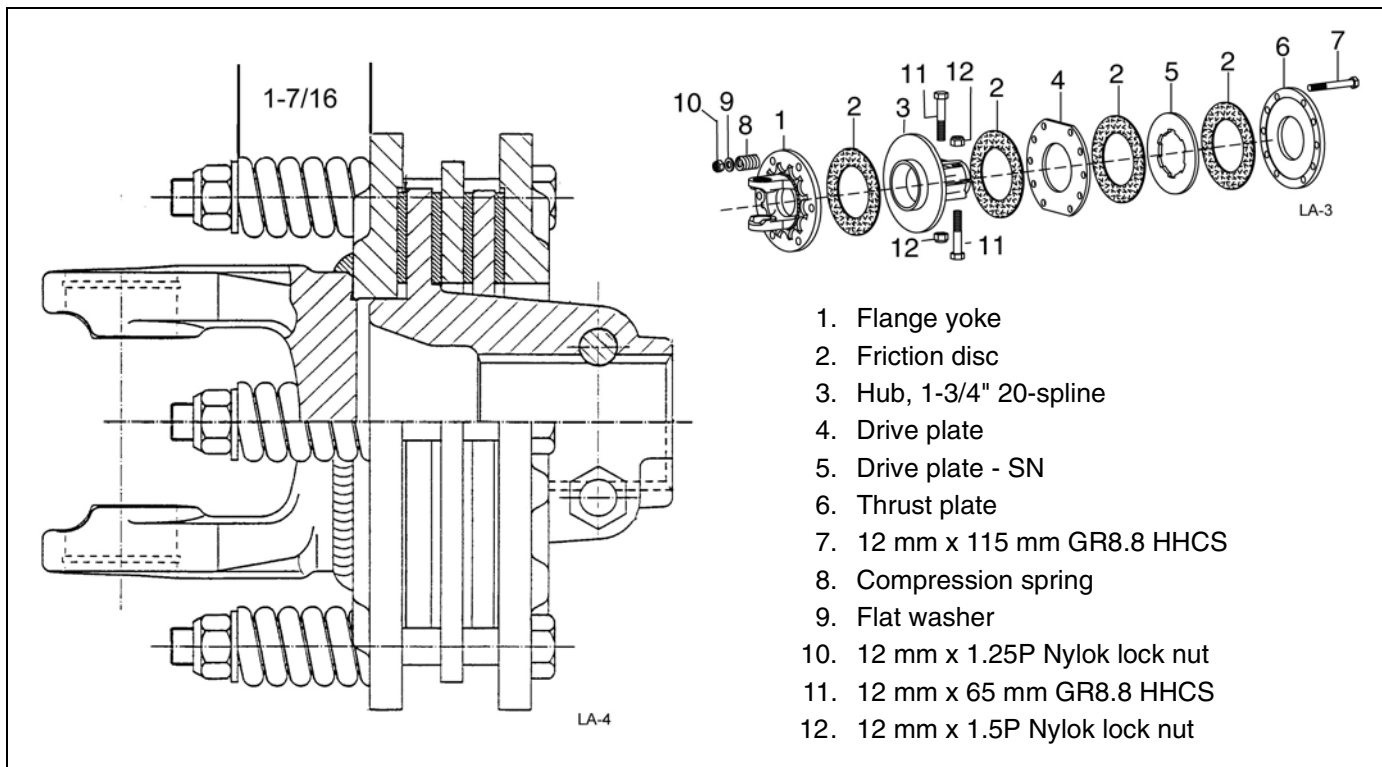

Figure 13. Slip Clutch Assembly
3. Loosen six 12 mm cap screws (7) to remove all tension from compression spring (8).
4. Hold clutch hub (3) solid and turn shaft to make sure clutch slips.
5. If clutch does not slip freely, disassemble and clean the flange yoke (1), clutch hub (3), drive plate (5), and thrust plate faces (6).
7. Compress each of the six compression springs (8) by tightening the six cap screws (7) and lock nuts (10). The compression springs should be compressed to a height of 1-7/16", not including washer (9). The minimum spring height is 1.36". See Figure 13.
8. If a clutch continues to slip when the springs are compressed to 1.36", check friction discs (2) for excessive wear. Discs are 1/8" when new. Replace discs after 1/16" wear. Minimum disc thickness is 1/16".